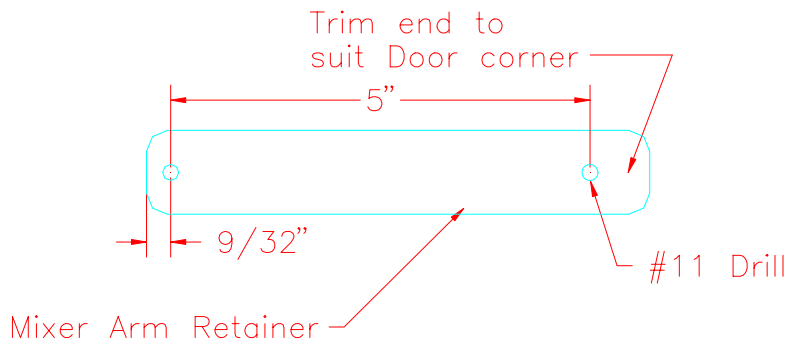

Figure 15.7.9
15) Drill two #11 holes into one 6" retainer. Figure 15.7.9.